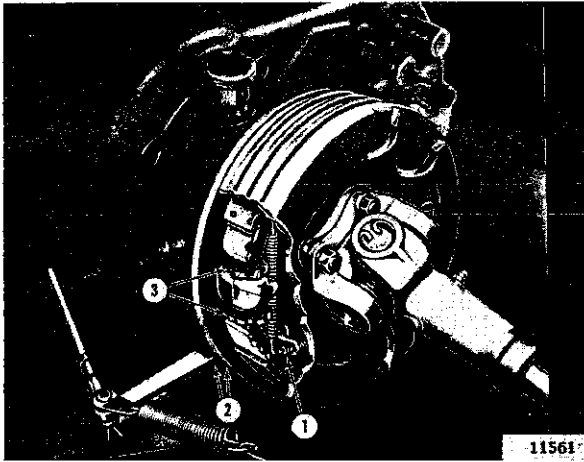

FIG. P-8—TRANSMISSION BRAKE ADJUSTMENT
cate it. Rotate the brake drum until one pair of the three sets of holes are over the shoe adjusting screw wheels in the brake. Use the edge of the holes in the brake drum as a fulcrum for suitable adjusting tool or a screwdriver, rotate each notched adjusting screw by moving the handle of the tool away from the center of the drive shaft until the shoes are snug in the drum. Back off seven notches on the adjusting screw wheels to secure proper running clearance between the shoes and the drum. Refer to Fig. P-8.
h. The position of the brake operating lever, Fig. P-8, must be correctly set. The position of this lever is determined by the adjustment of the cam or brake operating link, which spreads the two shoes. The operating link is adjusted by means of the special ball nut to set the operating lever with $\frac{3}{32}$ " [2,38 mm.] clearance between the closest point of the lever and the brake backing plate.